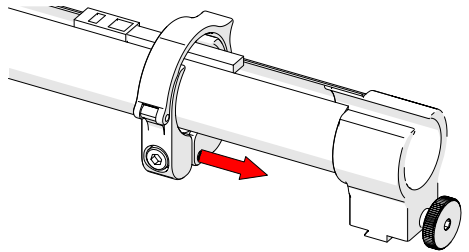

Fig. 183 - Slide clamp onto mount
3. Slide the clamp over the tube and cable management dovetail mount pinching the tube in between (Fig. 183).